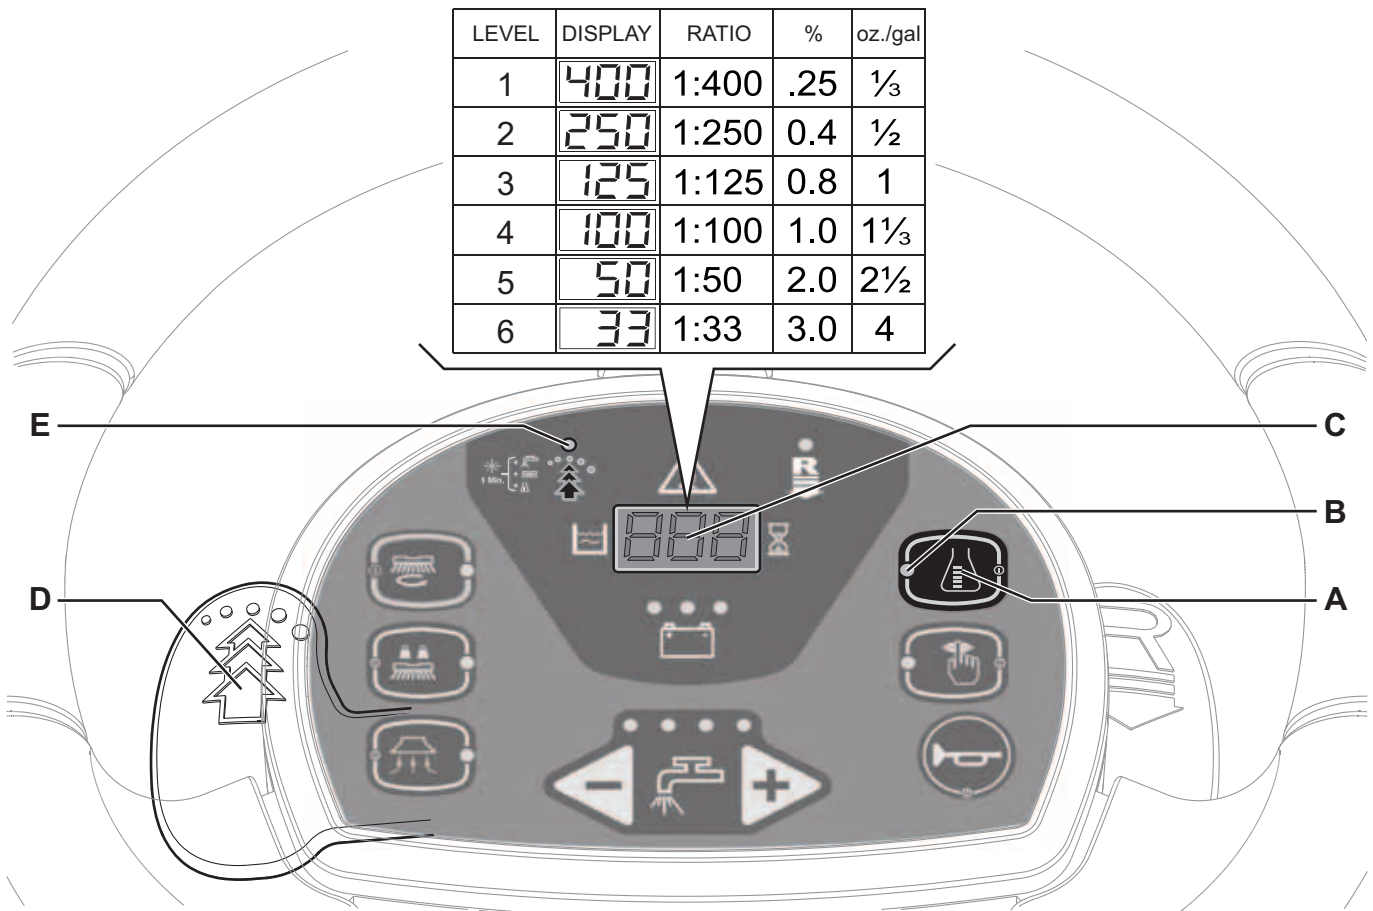

Figure 3
The system used to mix the detergent with the washing water can be activated by pressing the detergent flow control switch (A, Fig. 3): when the LED (B) is on, the detergent is added to the washing water.
The display (C) shows the detergent concentration level in the solution as shown in the table in Figure 3.
Lift the EcoBoss lever (D, Fig. 3) whenever a stronger washing power is required.
1. Turn off the detergent flow control switch (A) (the LED (B) must be OFF).
2. Press and hold the detergent flow control switch (A) until the LED (B) flashes.
3. Release the switch (A). Press it again shortly to go to the next level shown by the display (C) as shown in the table in Figure 3; repeat the procedure until the desired setting is reached.
4. Wait until the LED (B) stops flashing: the new level is now set.
In order to temporarily disable the system, lift the EcoBoss lever (D, Fig. 3) and keep it lifted for 2 seconds. After this procedure, (LED (D) off), the detergent concentration level is the one which has been set. To enable the system, lift the EcoBoss lever (D) again.